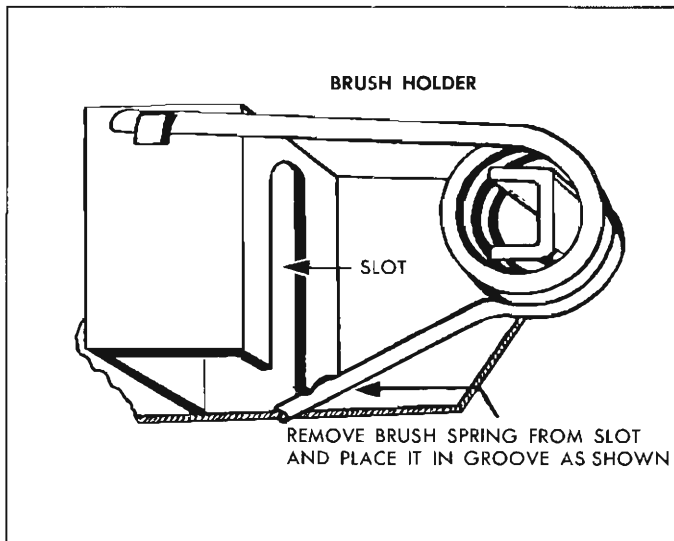

Fig. 42—Releasing Brush Spring Tension
2. Release brush spring tension (fig. 42), slide armature and end plate from motor frame. Pull end plate from armature.